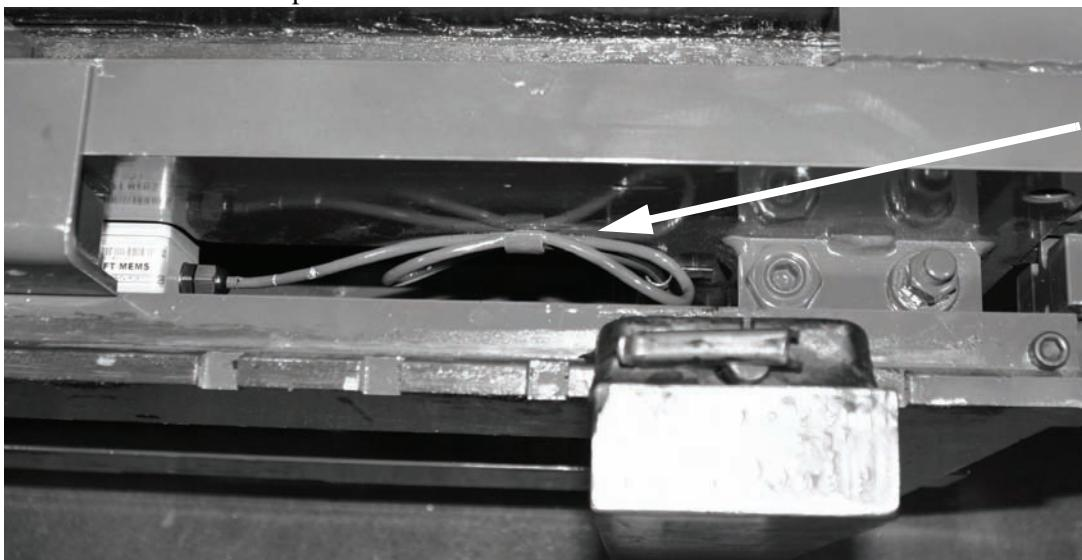

Figure 2-8. Load Cell Cable Clips
6. Loosen the load cell clips that hold the load cell cable to the scale back frame and their general location noted in Figure 2-8 on page 7.